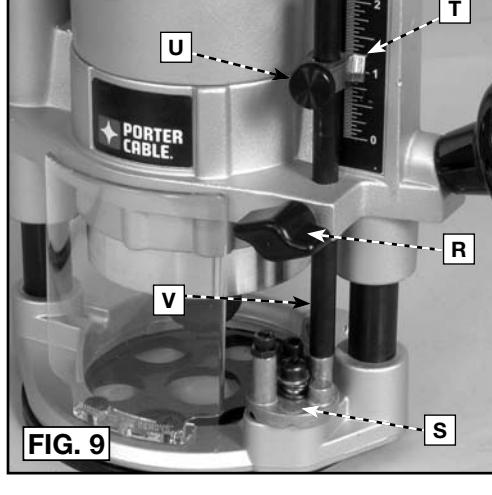
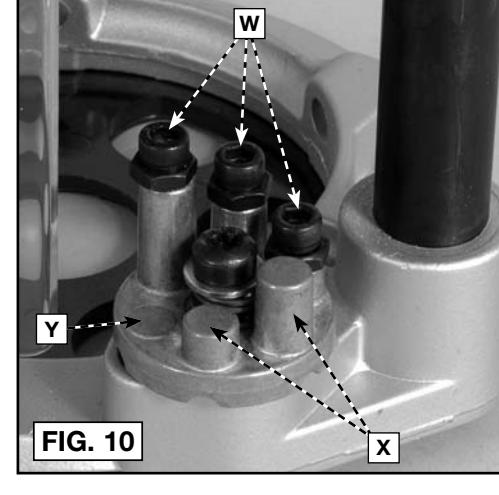

FIG. 9
FIG. 10
1. Loosen the depth rod locking knob (R) Fig. 9, and the depth indicator knob (U), allowing the depth rod (V) to contact one of the turret stops (S). Normally the deepest desired cut is set with the depth rod resting on the shortest turret stop (Y) Fig. 10. The other two fixed stops (X) Fig. 10 provide reduced cutting depths of 1/4" (6.4 mm) and 1/2" (13 mm) respectively. You can adjust the three stops (W) Fig. 10 to any desired height. You can utilize any combination of fixed and/or adjustable stops to achieve the desired depths required for a particular job.
4. Position the depth indicator (T) Fig. 9 at the "0" position and tighten the knob.
5. Loosen depth-rod locking knob (R) Fig. 9. Raise the indicator until it aligns with the graduation representing the desired depth of plunge. (The example in Fig. 9 shows setting for 1" plunge.)